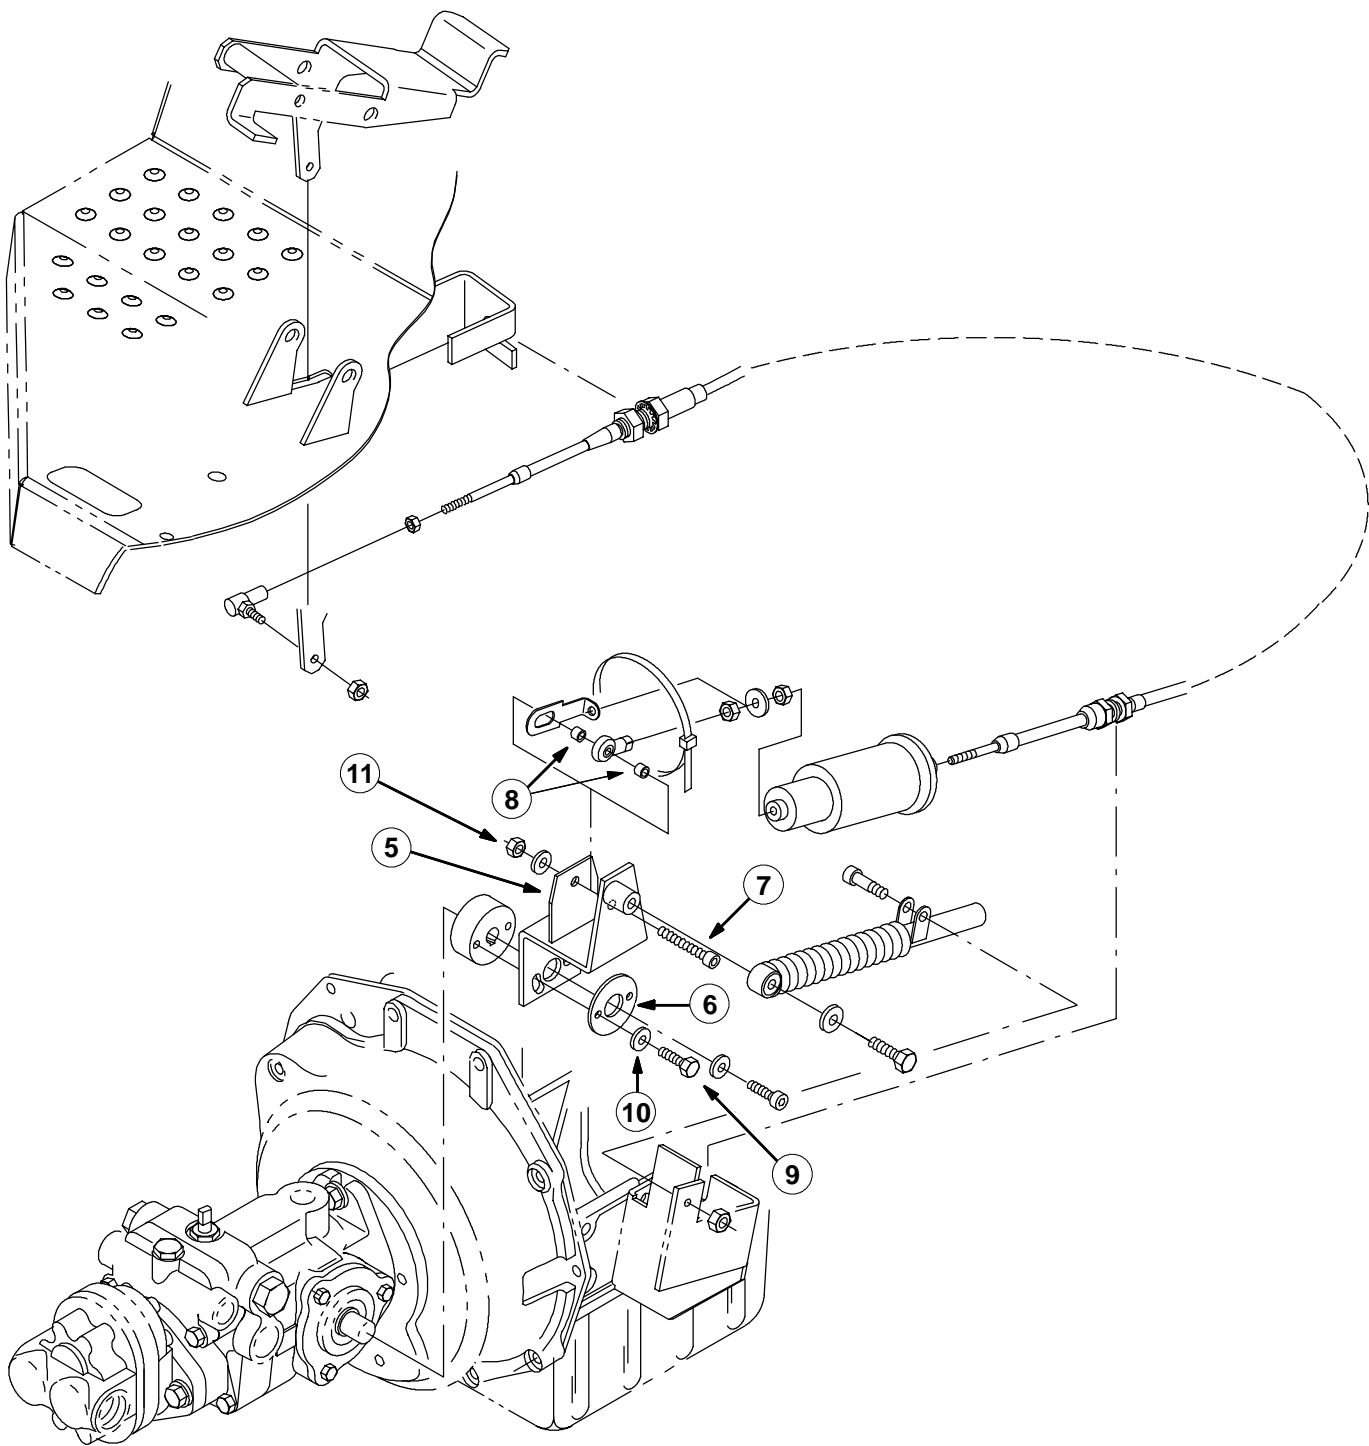

FIG. 2 - HYDRAULIC PUMP LINKAGE GROUP BREAKDOWN
6. Mount the new propel lever plate (5) to the hydraulic pump with new spacer washer (6), hex screws (9), and belleville washers (10). Screws (9) will be torqued after adjusting to remove creep. (Refer to FIG. 2, p.9)
7. Mount the shock absorber to the new propel lever plate (5) with set aside hardware.
(Refer to FIG. 2, p.9)
8. Mount the rod end and bracket assembly with new spacers (8), inside the new propel lever plate (5), with new socket screw (7) and nut (11). Torque the socket screw (7) to 19–25 ft lbs. (Refer to FIG. 2, p.9)
(14–18 ft. lbs.) (Refer to FIG. 2, p.9)